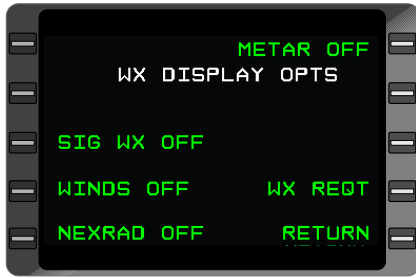

Figure 7-174
1. From the **MAP** Page, access the **WX DISPLAY OPTS** page by selecting the **Blue Caret** (LSK 3L) on the left of the screen. See Figure 7-174.